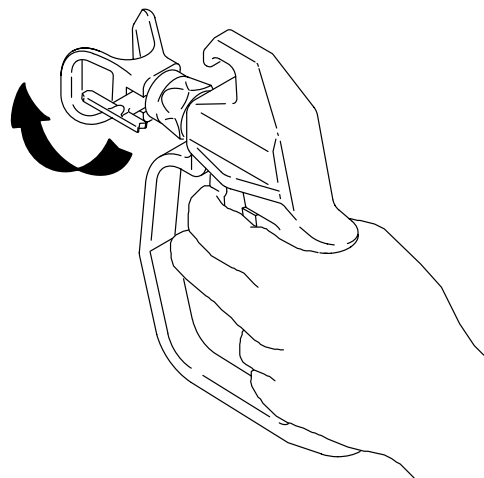

Fig. 6 0278
- If you have a Reverse-A-Clean IV tip guard on your gun and the tip clogs while spraying, release the gun trigger, lock the trigger safety lever, and rotate the spray tip handle 180°. See Fig. 6.